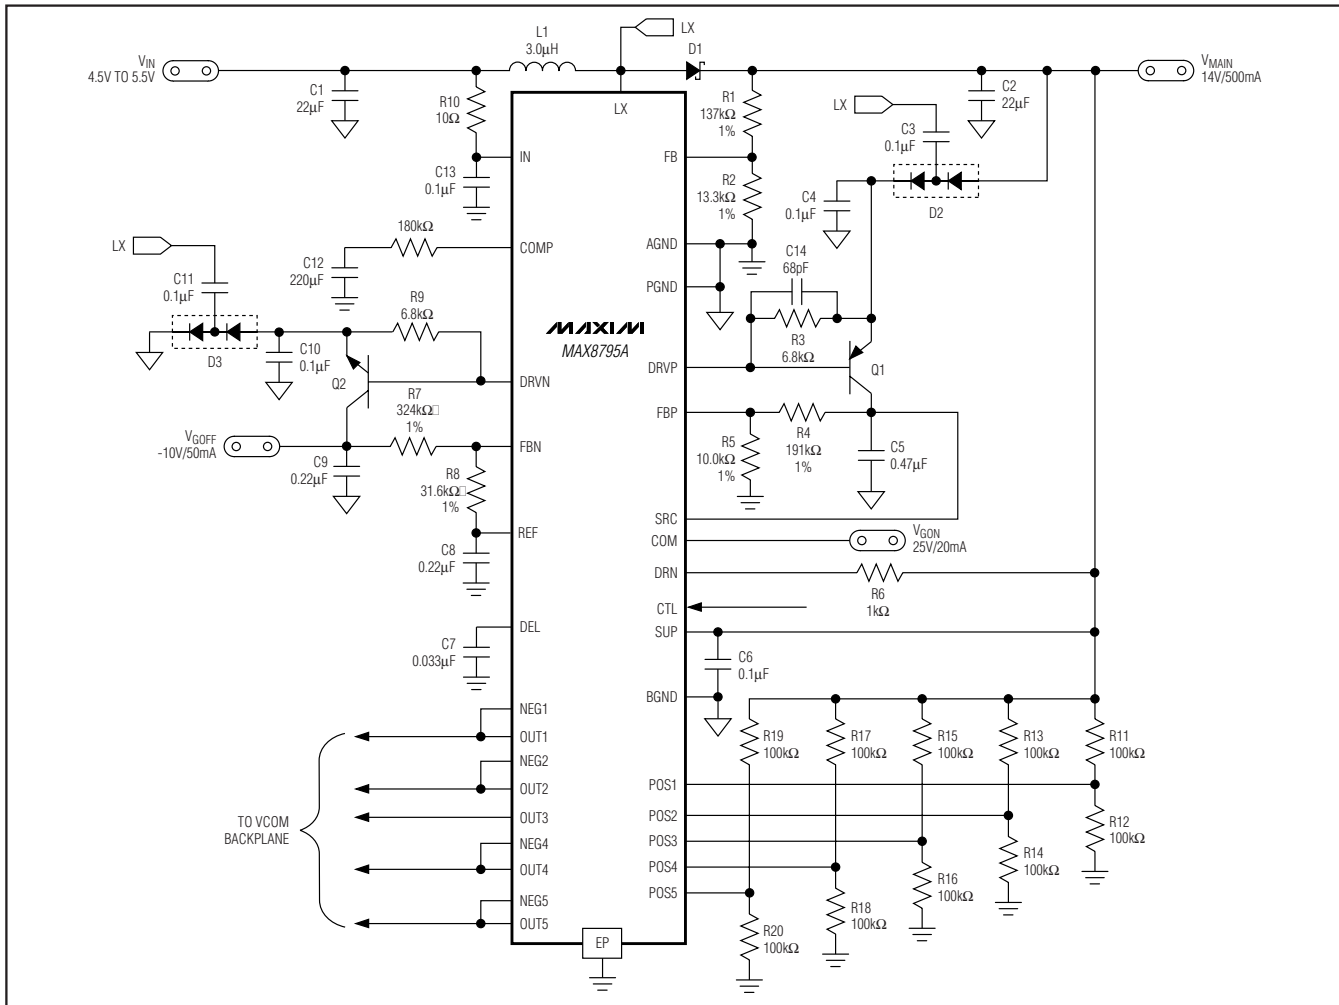

Figure 1. Typical Operating Circuit
(Circuit of Figure 1, $V_{IN} = 5V$, $V_{MAIN} = 14V$, $V_{GON} = 25V$, $V_{GOFF} = -10V$, $T_A = +25^\circ C$, unless otherwise noted.)
The MAX8795A typical operating circuit (Figure 1) is a complete power-supply system for TFT LCDs. The circuit generates a +14V source-driver supply and +25V and
-10V gate-driver supplies. The input voltage range for the IC is from +2.5V to +5.5V. The listed load currents in Figure 1 are available from a +4.5V to +5.5V supply. Table 1 lists some recommended components, and Table 2 lists the contact information of component suppliers.
The gate-on linear-regulator controller (REG P) is an analog gain block with an open-drain n-channel output. It drives an external pnp pass transistor with a 6.8kΩ base-to-emitter resistor (Figure 1). Its guaranteed base-drive sink current is at least 1mA. The regulator including Q1 in Figure 1 uses a 0.47μF ceramic output capacitor and is designed to deliver 20mA at 25V. Other output voltages and currents are possible with the proper pass transistor and output capacitor. See the *Pass-Transistor Selection* and *Stability Requirements* sections.
The gate-off linear-regulator controller (REG N) is an analog gain block with an open-drain p-channel output. It drives an external npn pass transistor with a 6.8k Ω base-to-emitter resistor (Figure 1). Its guaranteed base-drive source current is at least 1mA. The regulator including Q2 in Figure 1 uses a 0.47 μ F ceramic output capacitor and is designed to deliver 50mA at -10V. Other output voltages and currents are possible with the proper pass transistor and output capacitor (see the *Pass-Transistor Selection* and *Stability Requirements* sections).
REG N is typically used to provide the TFT-LCD gate drivers' gate-off voltage. A negative voltage can be produced using a charge-pump circuit as shown in Figure 1. REG N is enabled after the voltage on REF exceeds 1.0V. Each time it is enabled, the control goes through a soft-start routine that ramps down its internal reference DAC from V_{REF} to 250mV in 128 steps.